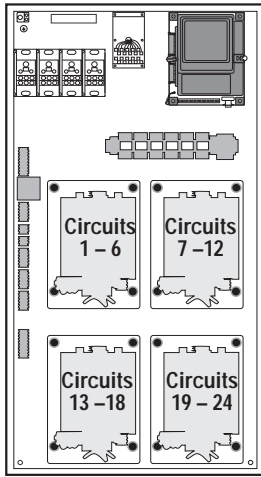

Figure 12: 20 amp Transfer switch circuit assignments
2. Connect a Neutral wire for each dimmer circuit to terminals **NN1** through **NN6** on the right side of the transfer switch assembly. See Figure 12, left, to match switch assemblies to loads.
2. Connect a Neutral wire for each lighting load to terminals **LN1** through **LN6** on the left side of the transfer switch assembly. See Figure 12, above, to match switch assemblies to loads.